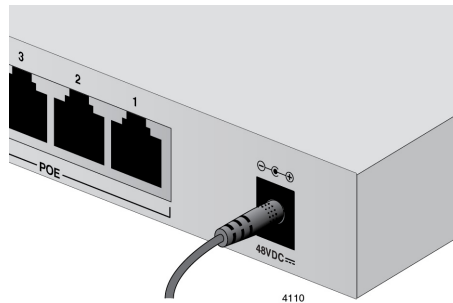

Figure 4. Attach the Power Cord into the Connector
1. Attach the power cord to the power connector on the back of the switch as shown in Figure 4.